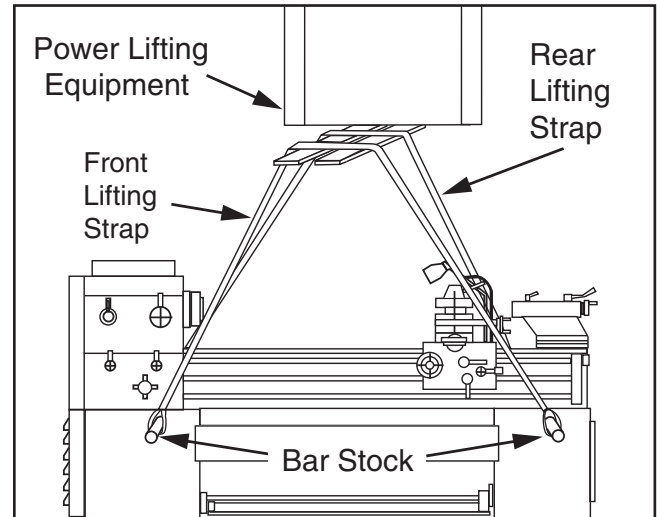

Figure 16. Example of lathe setup for lifting.
6. Insert round steel bar stock through the four lifting holes (see **Figure 16**).
7. Attach the lifting straps to the bar stock and the power lifting equipment (see **Figure 16**). Make sure there is enough space between the straps and the control rod, feed rod, leadscrew and electrical cabinet to prevent putting pressure on these components when lifting.